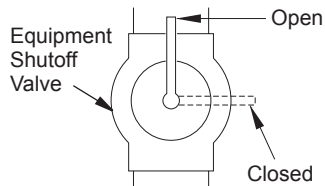

Figure 15 - Equipment Shutoff Valve
1. Close equipment shutoff valve (see Figure 15).
1. Open equipment shutoff valve (see Figure 15, page 15).